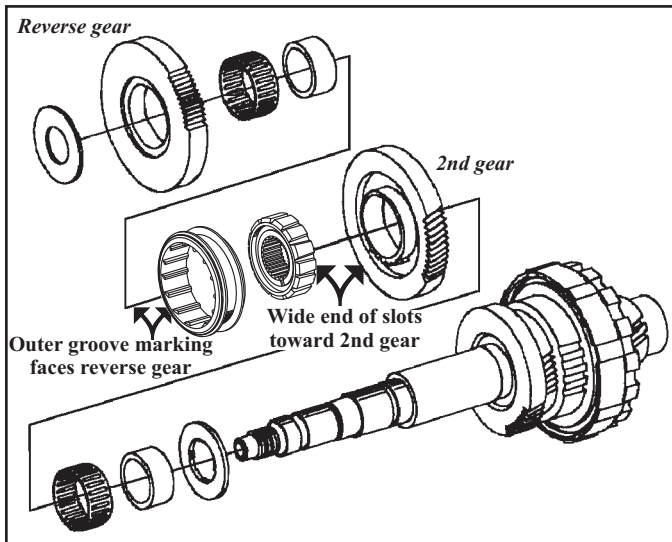

Figure 138
11. Install the internally splined 2nd driven gear thrust washer keying it to the splines on the shaft (See Figure 138).
12. Install the caged bearing inner race (See Figure 138). It may be necessary to use a heat gun or a press to get the inner race onto the shaft.
13. Install the 2nd driven gear caged needle bearing if equipped (See Figure 138). During 1992, the bearing was eliminated a new gear was released with a smaller inside diameter. All service replacement gears are designed to be used without the bearing.
14. Install the 2nd driven gear onto the caged roller bearing with the dog teeth facing up (See Figure 138).
17. Install the Reverse driven gear inner caged bearing race. It may be necessary to use a heat gun or press (See Figure 138).
18. Install the Reverse driven gear caged needle bearing (See Figure 138).
19. Install the Reverse driven gear (See Figure 138).
20. Install the Reverse driven gear thrust washer (See Figure 138).